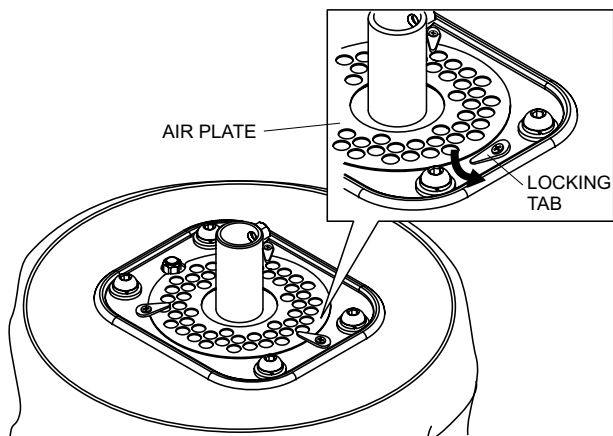

Figure 45. Accessing Filter
2. Turn the balloon/lamp assembly upsidedown to access the filter. See Figure 45.
3. Turn the three locking tabs outwards to release the air plate. See Figure 45.